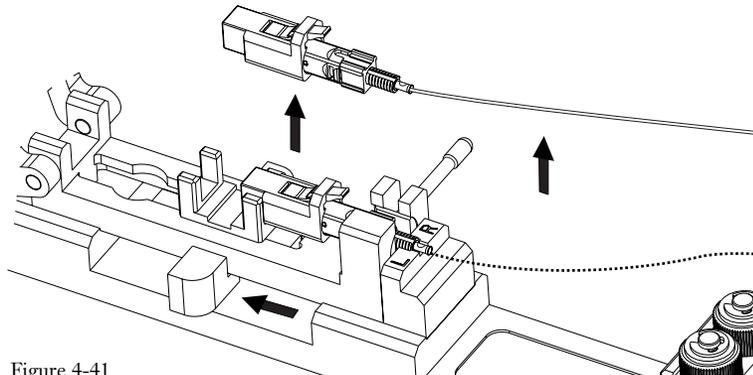

Figure 4-41
**4.8-8** Leave the wrench handle down. Pull the slide handle back and remove the connector by lifting it and its fiber (900  $\mu\text{m}$ ) or jacketed cable straight up and out of the tool (Figure 4-41). Do not pull the fibers or cable away from the crimped tube. Handle the connector only.